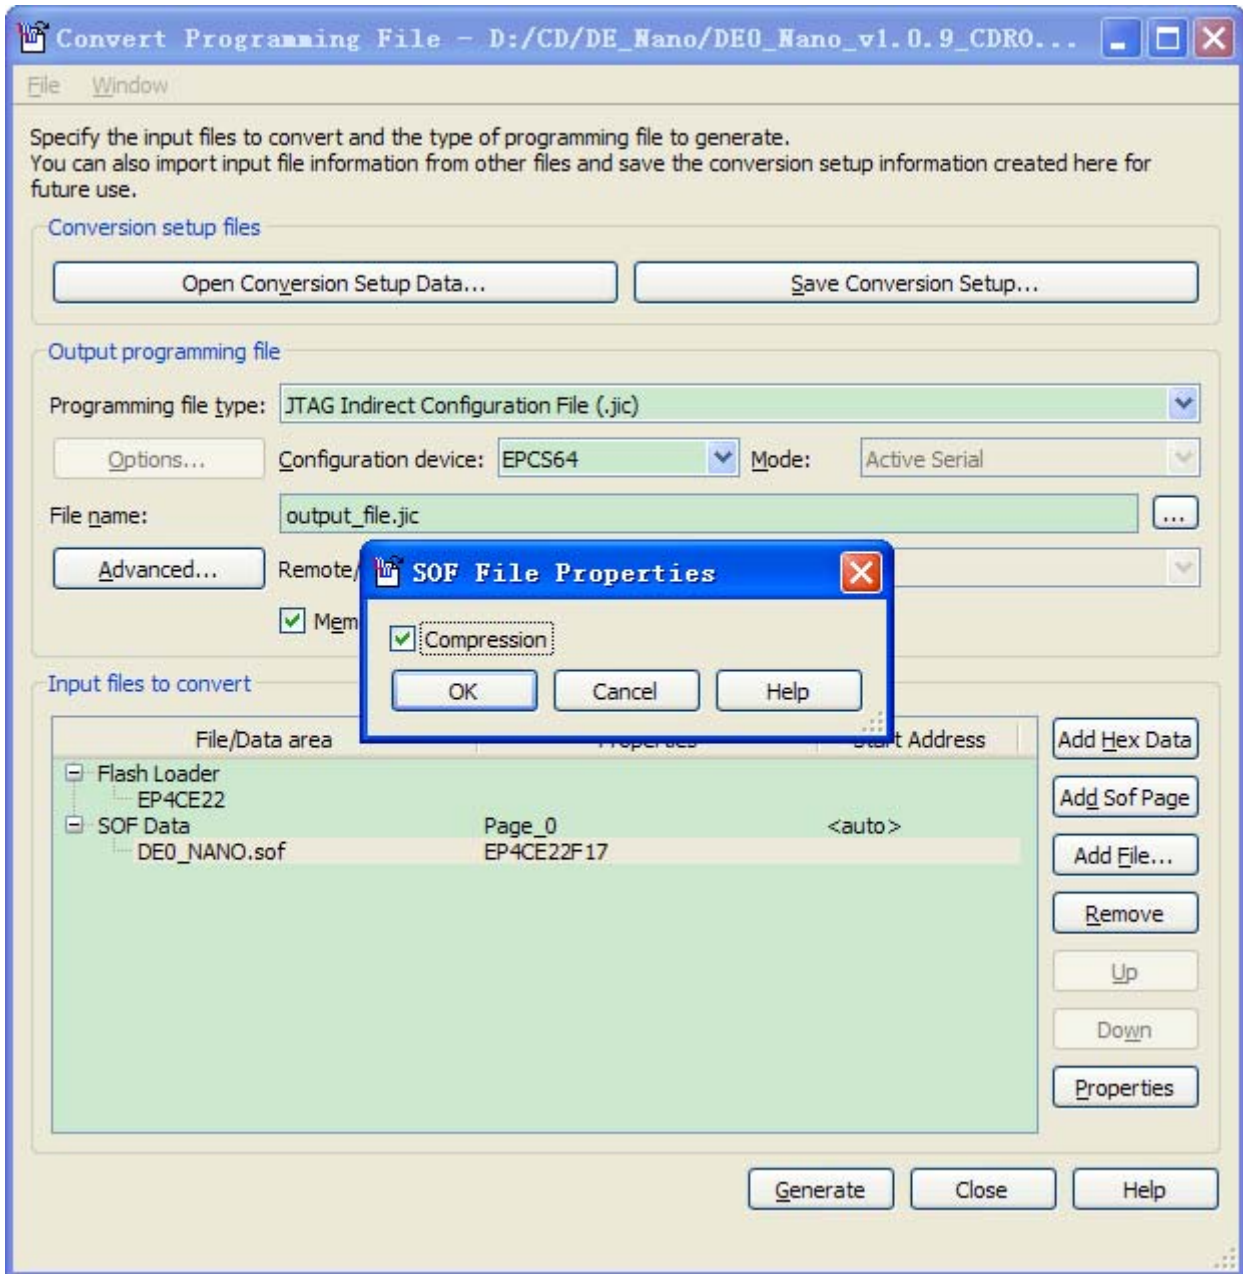

Figure 9-5 Compression the sof file
13. Select the .sof file, and Click the **Properties**. Select Compression, click **OK**, as shown in **Figure 9-5**.